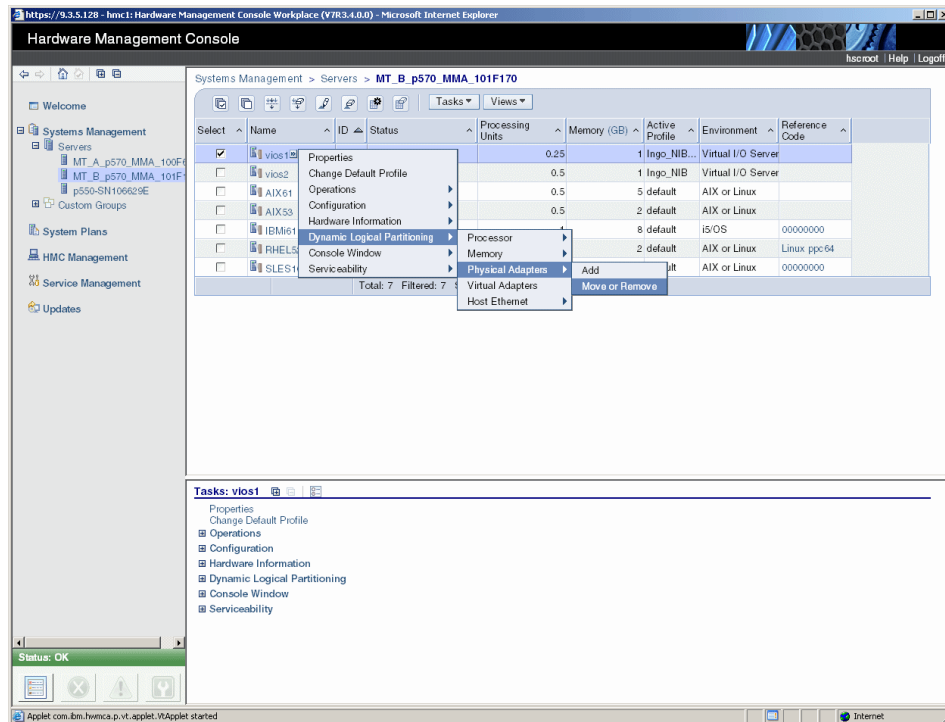

Figure 6-18 Move or remove physical adapter operation
1. Select the partition that currently holds the adapter and then select **Dynamic Logical Partitioning** → **Physical Adapters** → **Move or Remove** (see Figure 6-18).